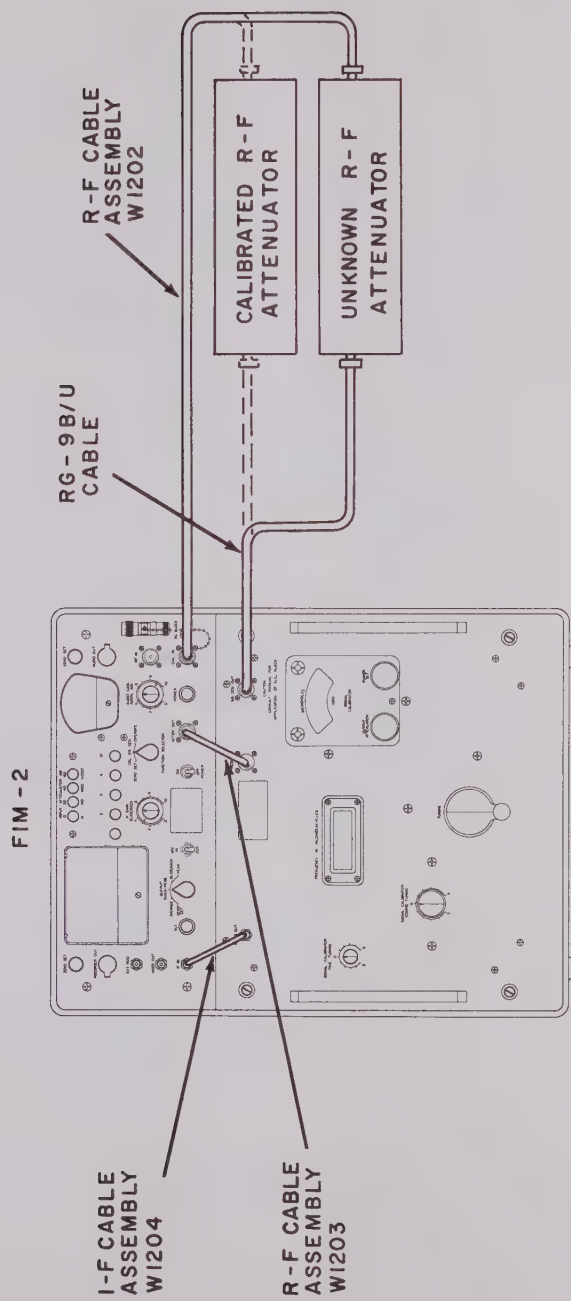

Figure 2-13. Attenuator Measurements Using R-f Substitution Method, Equipment Set Up
a. Interpose the r-f attenuator under test between the SIG GEN OUT jack and the CAL IN jack, as shown in figure 2-13.
c. Replace the r-f attenuator under test with a calibrated r-f attenuator capable of inserting at least 80 db of attenuation, as shown in figure 2-13. Adjust the calibrated r-f attenuator for maximum insertion loss.